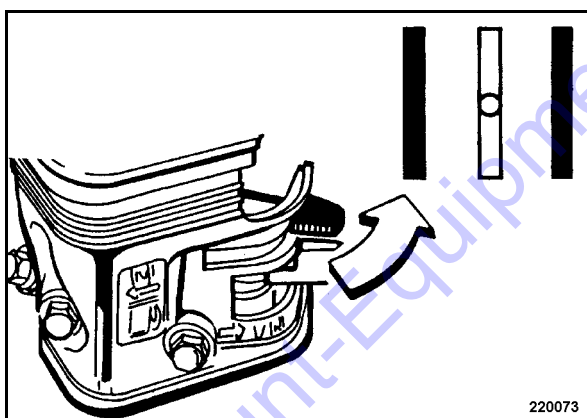

Fig. 24
- As the engine warms up open the lever (Fig. 24) of the choke bit by bit.